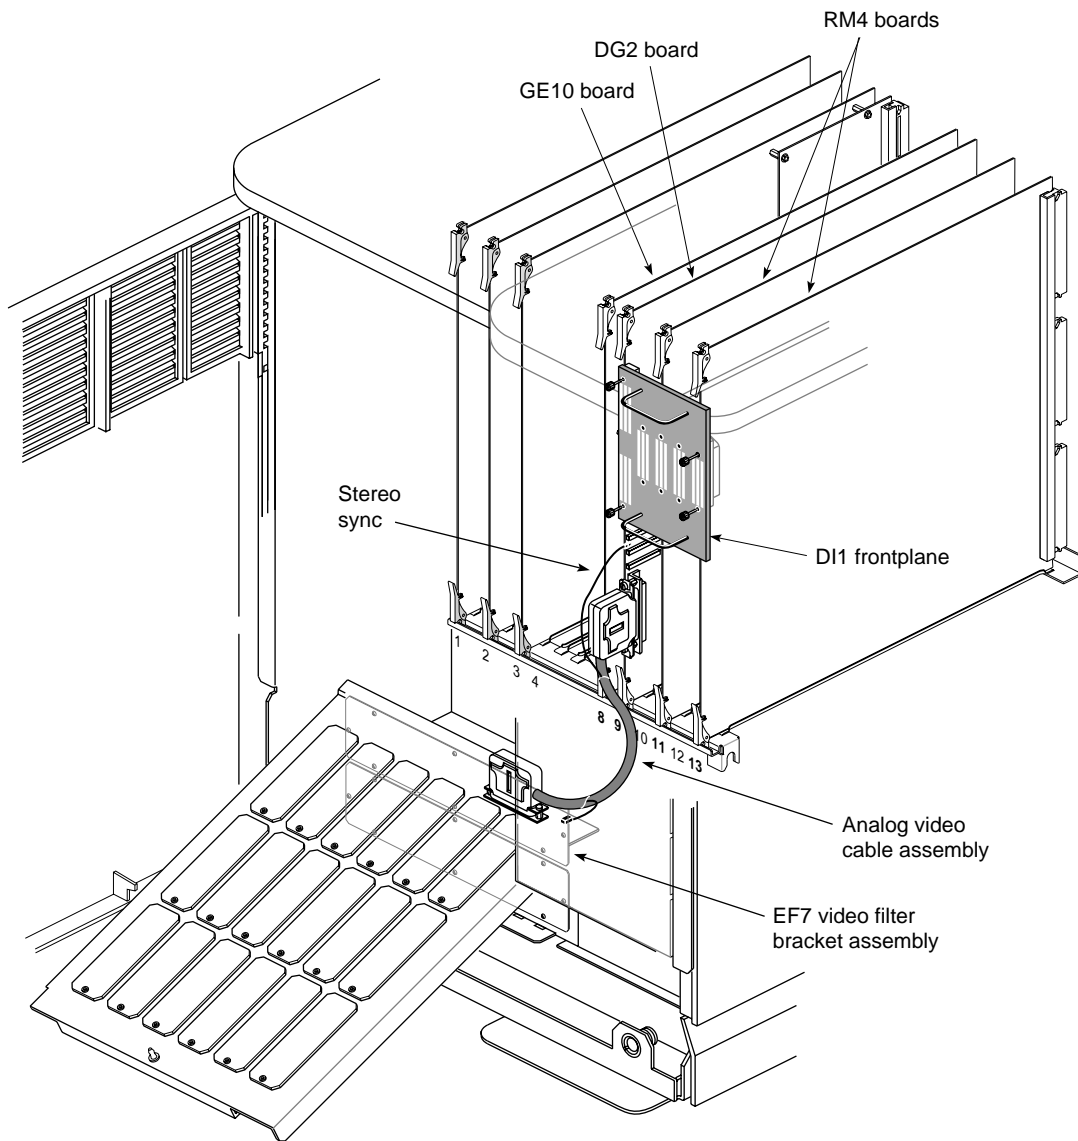
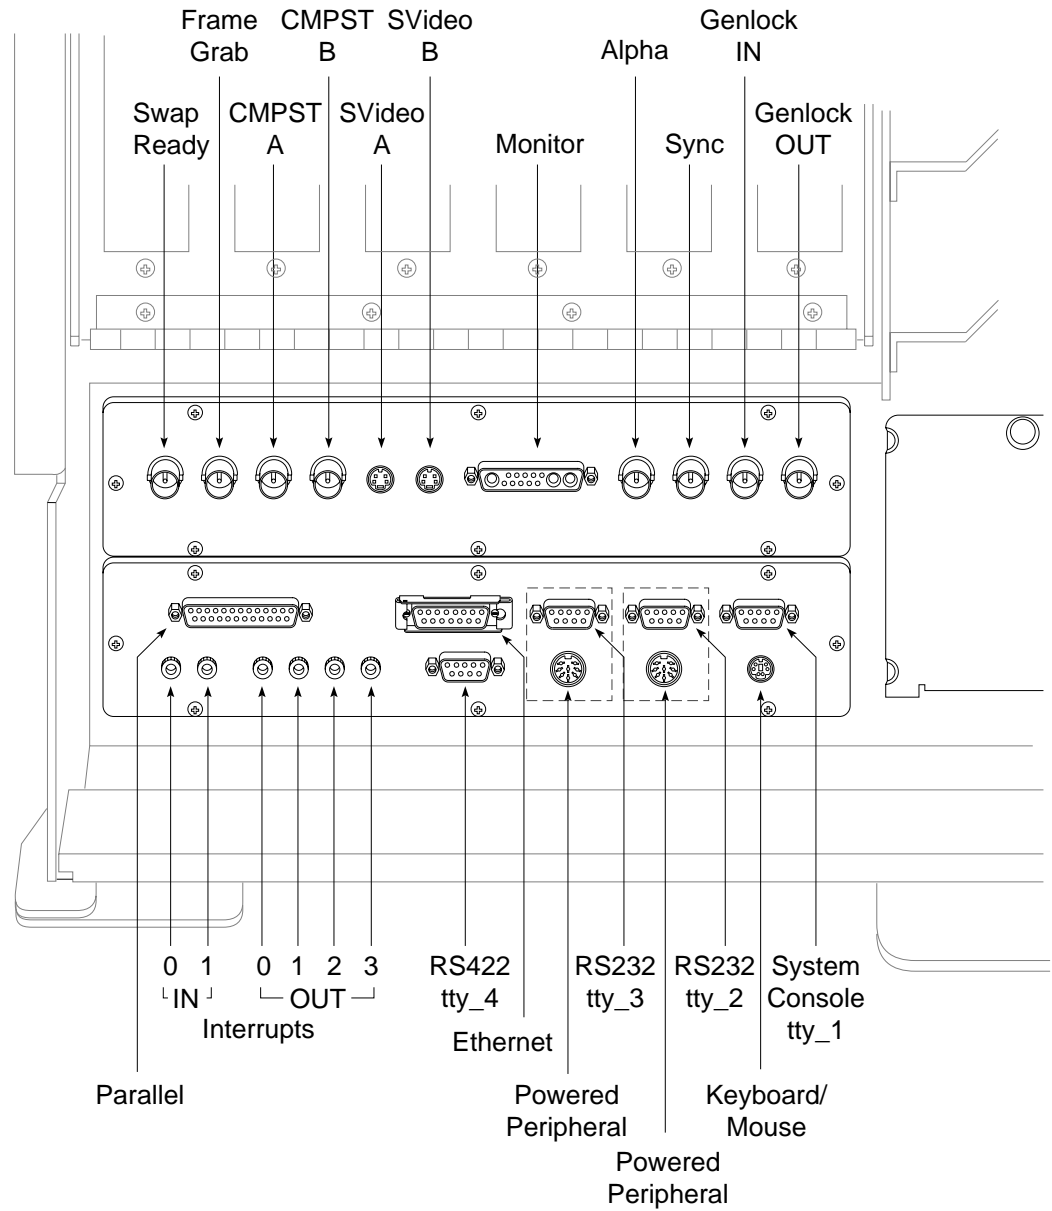

Figure 4-6 RealityEngine² Video I/O Panel Internal Connections
Figure 4-7 RealityEngine² Video I/O Panel External Connections
11. Connect the two internal cables (video and Stereosync) between the RE² board set and the video I/O panel (see Figure 4-6). External connections to the video I/O panel are illustrated in Figure 4-7.